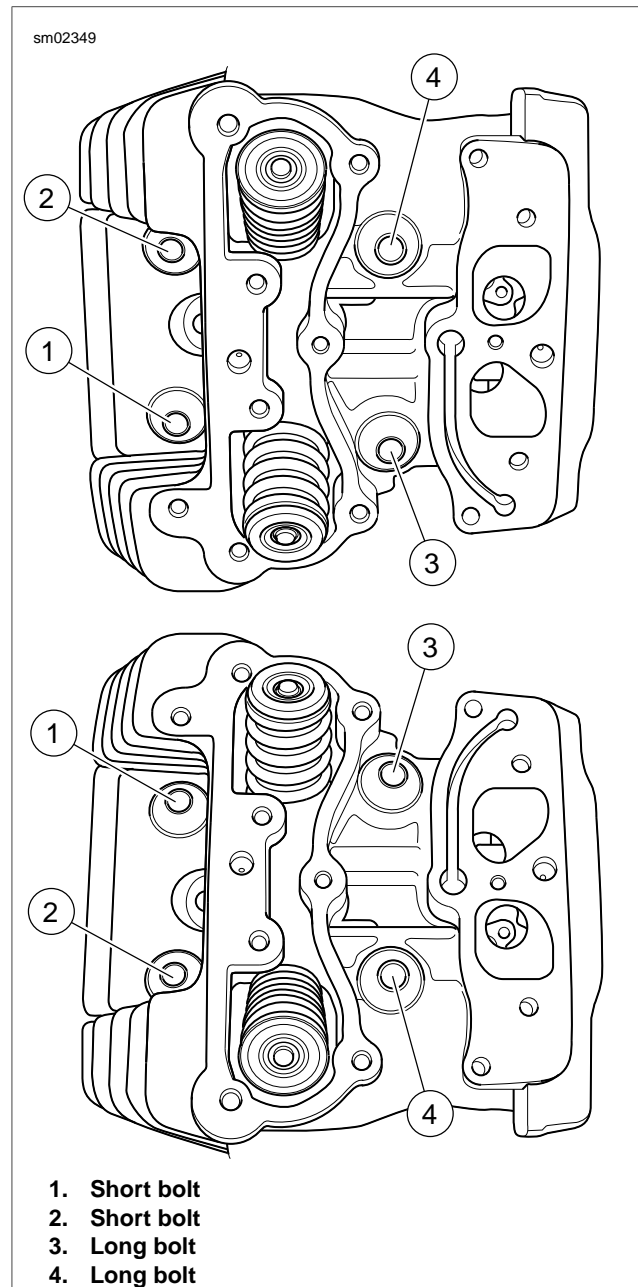

Figure 3-40. Cylinder Head Bolt Torque Sequence
4. See Figure 3-40. Loosely install the cylinder head bolts onto the cylinder studs. Place two short bolts on the left side of the engine and two long bolts on the right.
- e. Using the marks as a guide, turn each bolt 1/4 turn or 90 degrees. Be sure to tighten the cylinder head bolts in the sequence shown in Figure 3-40.